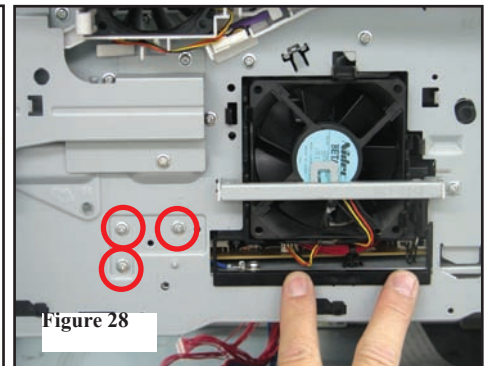

Figure 28
26. Disconnect fan cable and thermistor cable as shown. (Figure 28)
27. Remove 3 screws in recessed area. (Figure 28, red circles)